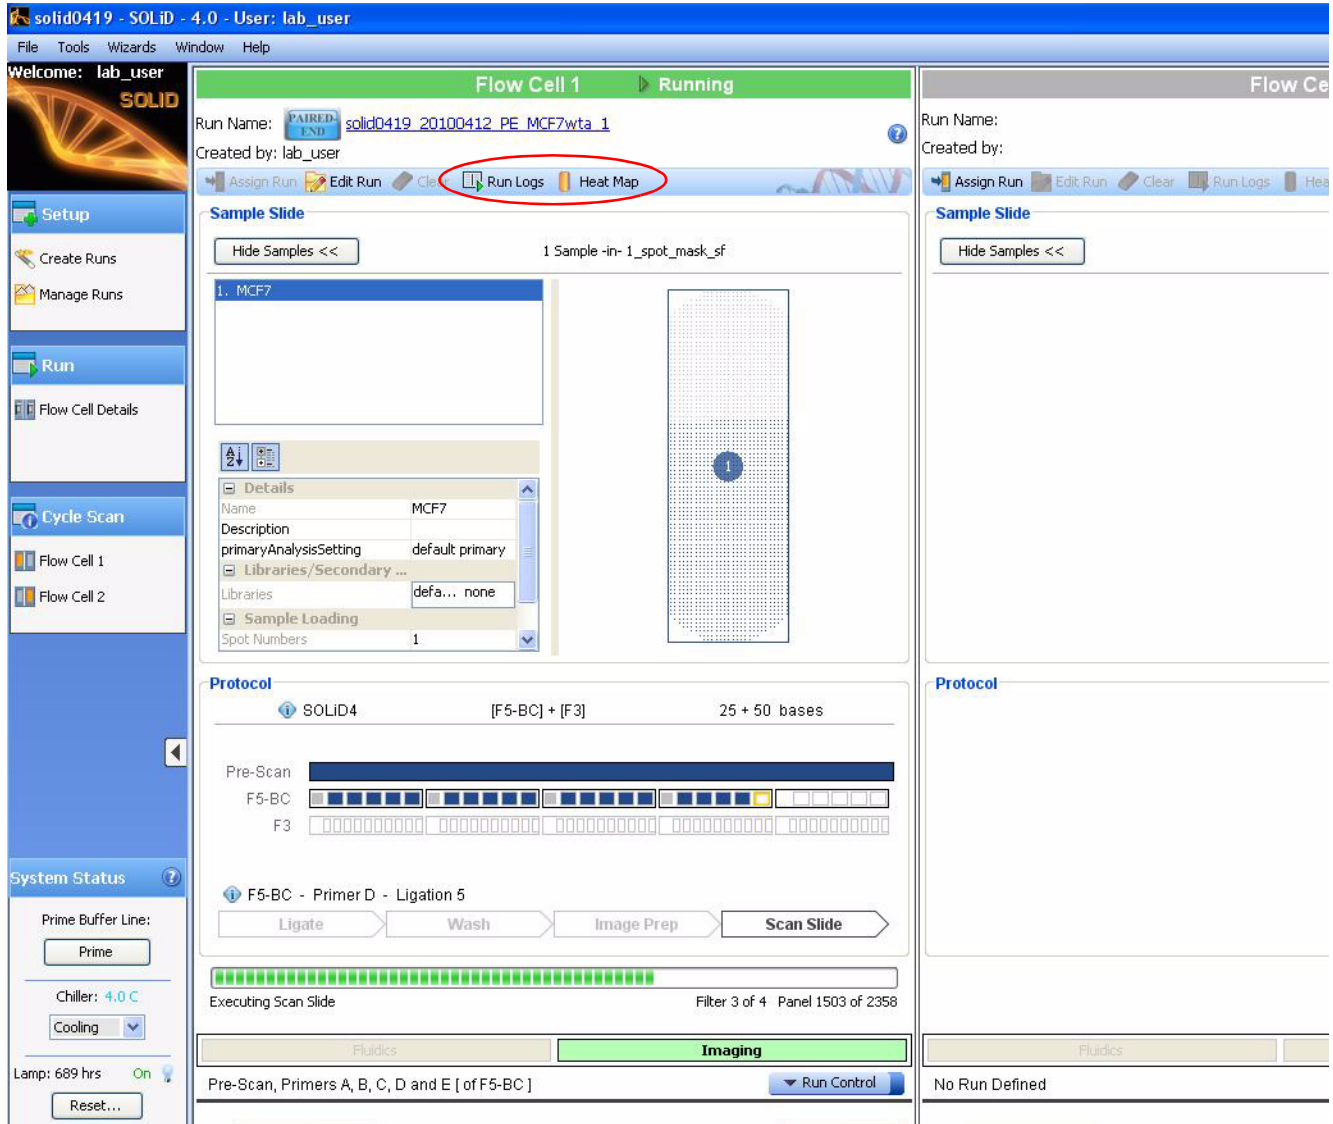

Figure 54 How to learn more about the current run.
- After the run has been initiated, you can click the **Run Log** and **Heat Map** buttons located at the top of the appropriate flowcell panel to learn more information about the current run (see Figure 54). You can also select the appropriate flowcell in the Cycle Scans menu on the task bar on the left.